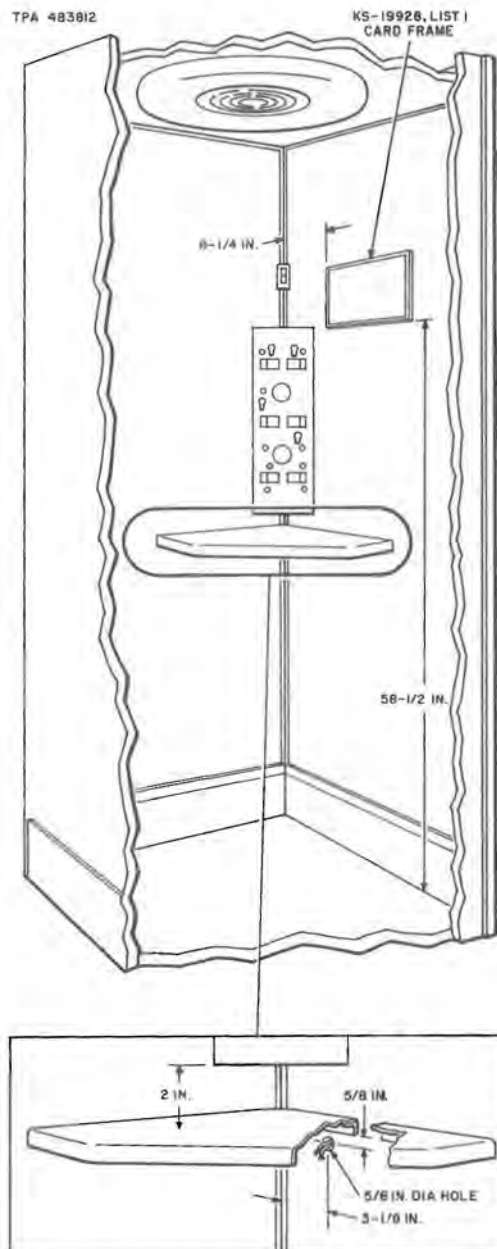

Fig. 5—Requirements for Subscriber Set Wire Access Hole and Card Frame
3.11 When a subscriber set is required, drill a 5/8-inch hole for access to the wiring channel in accordance with Fig. 5.
Note: Unless otherwise specified, all KS-19340 booths are equipped with List 53 backboards. All backboards must be minimum of 2 inches above the shelf (Fig. 5).
- 3.18 Locate card frame per Fig. 5 and install as directed in Section 508-811-100.